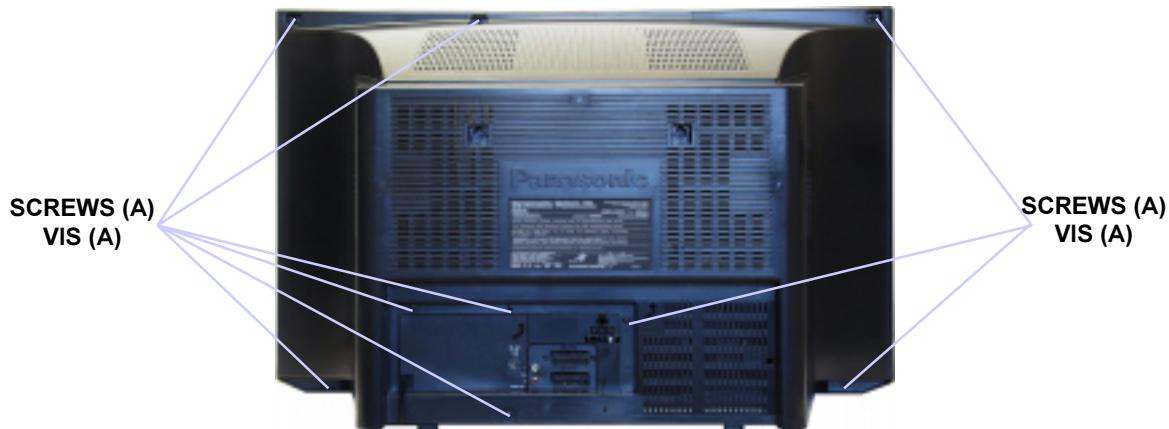

Fig.2.
1. Remove the 9 screws (A) as shown in Fig.2.
1. Retirer les 9 vis (A) comme sur la Fig.2.